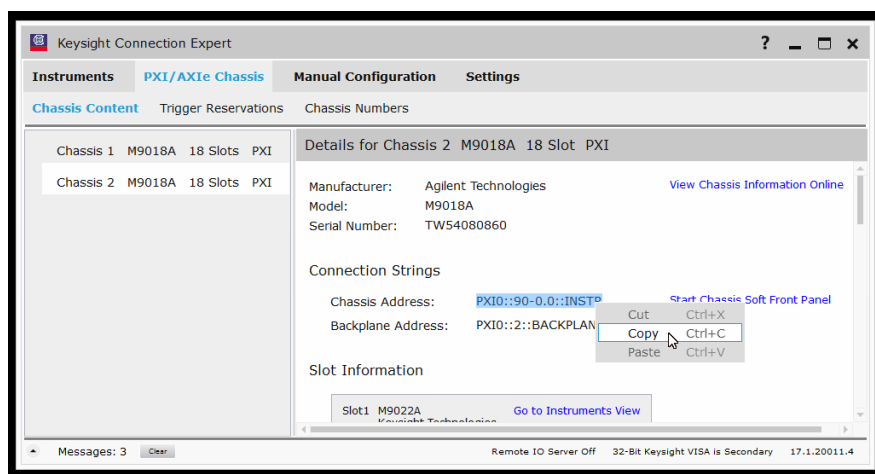

Figure 2 Keysight Connection Window, Locate Bus Number
- 5 Open the **Keysight Connection Expert** and record or copy the complete **Chassis Address** of the M9018A. See Figure 2 below.